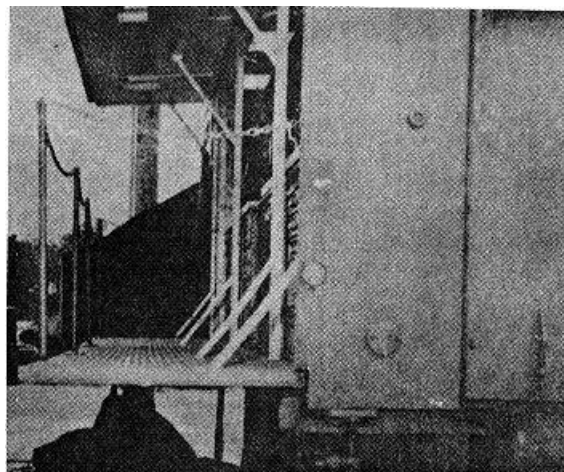

Figure 28. Chain guard railing installation.
- (4) Install chain guard railing (fig. 28 and TM 9-2330-238-14).